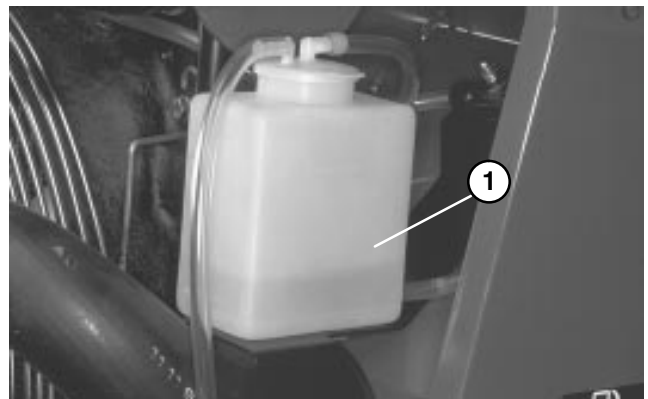
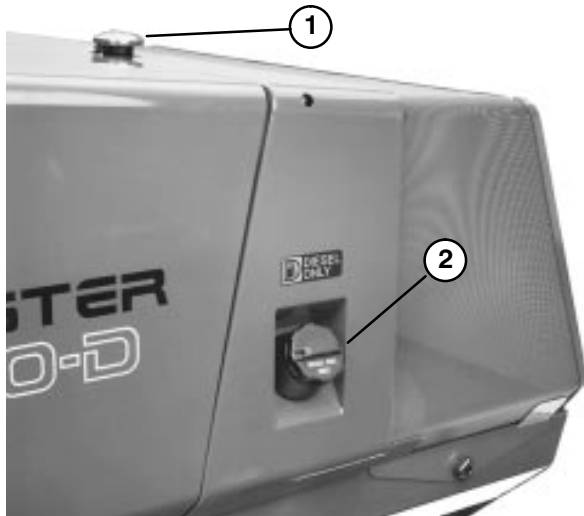

Figure 4
Figure 5
1. Carefully remove radiator cap (Fig. 5) and expansion tank cap (Fig. 4).
1. Remove fuel tank cap (Fig. 5).